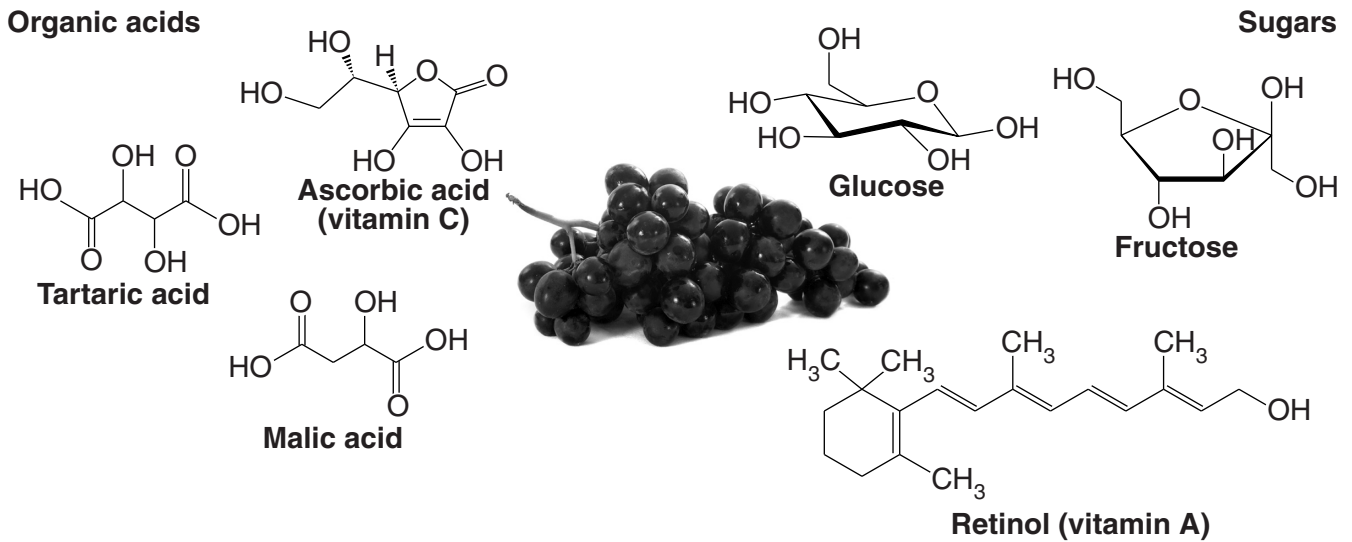

Fig. 1: Some of the compounds found in grape juice
- (c) **Fig. 1** in the article shows some of the organic compounds found in grape juice.
One isomer is shown in **Fig. 1**.
- (iv) **Fig. 1** in the article shows some of the compounds found in grape juice.
Give **two** compounds in **Fig. 1** that contain a **primary** alcohol group.
After harvesting, the grapes are crushed to release their juices. Like most fruit juices, the grape juice is a mixture of sugars and organic acids including vitamin C (Fig. 1). To change this into wine, yeast is used to convert the glucose and fructose sugars to ethanol in the fermentation process, which involves a series of biochemical pathways.